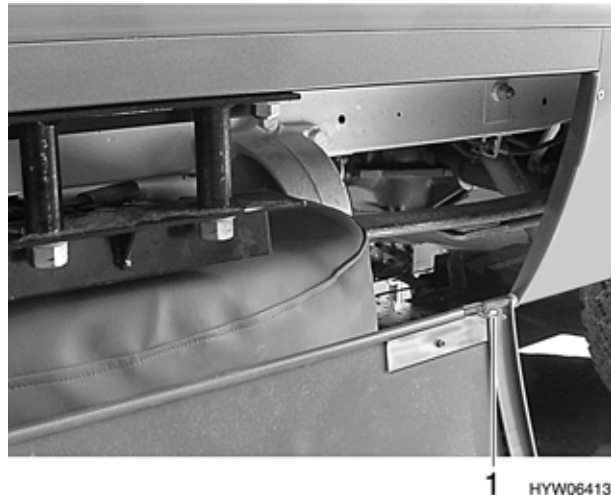

Fig. 179 Spare wheel flap, under the floor
- Move lock (Fig. 179,1) to one side.